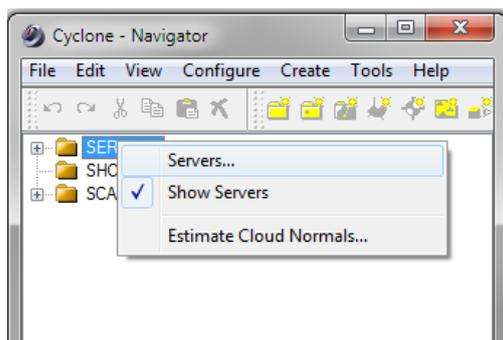

Figure 6. Right click on Servers folder
- Uncheck the **Shared** server box if it is checked. See Figure 6.